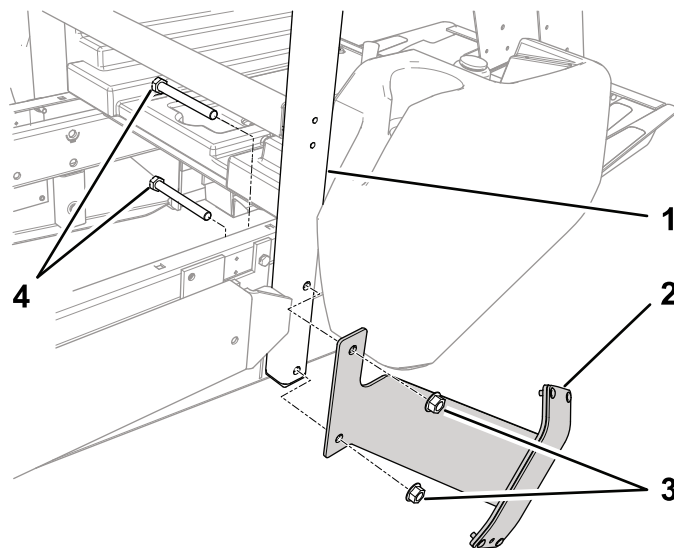

Figure 18
1. Remove the (2) capscrews and nuts securing the ROPS tube to the right side of the machine (Figure 18).
2. Mount the hopper stop assembly to the outside of the ROPS tube with (2) 1/2 x 4-1/2 inch capscrews and 1/2 inch locknuts (Figure 18). Make sure the hopper stop is orientated with the pad surface forward of the ROPS tube.